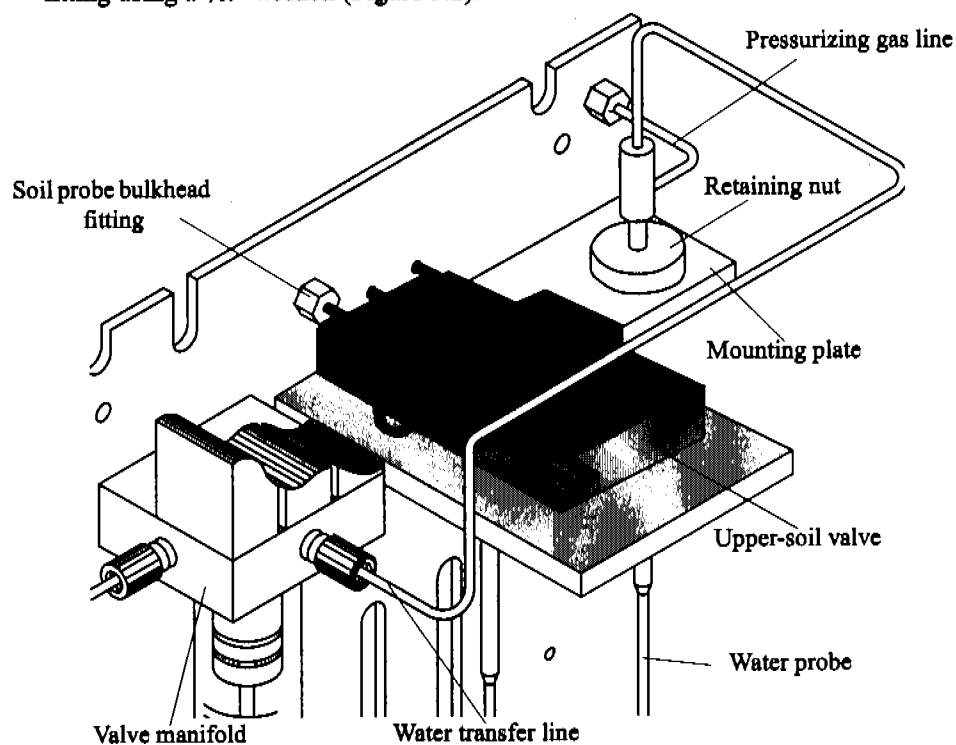

Figure 5.2. Probe section showing water probe and water transfer line
1. Loosen and remove the brass nut securing the pressurizing gas line to the bulkhead fitting using a $\frac{5}{16}$ " wrench (Figure 5.2).
2. Remove the plastic nut with the reverse ferrule securing the water transfer line to the valve manifold (Figure 5.2).
1. Remove the tan plastic nut and reverse ferrule from the valve manifold's front fitting (Figure 5.2).
2. Remove the probe cover. Disconnect the short line going into the heated upper-soil valve from the probe body (Figure 5.2). Attach the tubing from a flowmeter to the line. Load a clean vial with a new septum in the tray and run it as a manual soil sample. Check the flow rate out of the line. It should be the same as the flow from the soil probe bulkhead fitting.